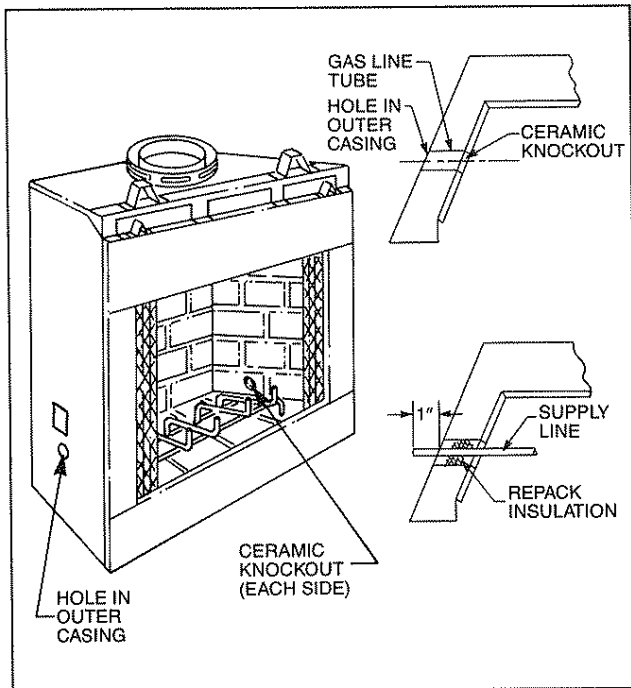

Fig. 26. Install iron pipe gas line through hole provided in either side of the fireplace.
Locate the gas line hole in the outer casing of the fireplace and remove the insulation from the gas line tube. (Refer to Fig. 26.)
**NOTE: The gas pipe should not come in contact with any wood structures until it has reached a point at least one (1) inch away from the fireplace side. (See Fig. 26 for installation clarification.)**